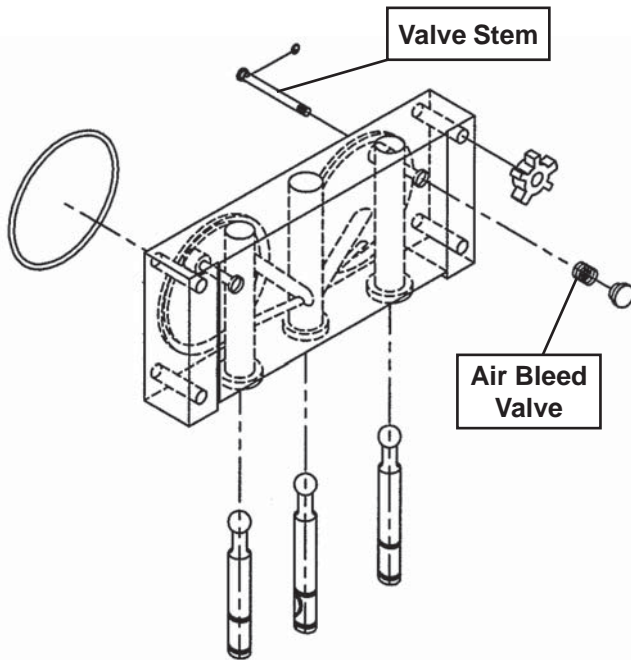

Figure 3-4 Front Door Disassembly
2. Remove the air bleed valve by unscrewing the knob while holding the valve stem from behind (Fig. 3-4). Remove the compression spring and push air bleed valve through the rear of the front door.